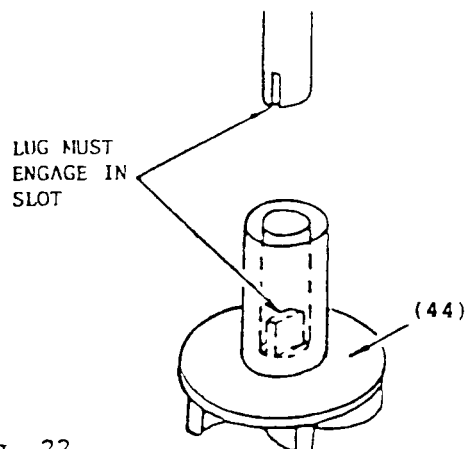

Fig. 22
1. Replace oil pump on lower end of upright arm shaft and turn machine pulley slowly to check that the lug at the bottom of the hole in the impeller (44) is engaged in the slot provided for it on the lower end of upright arm shaft. (Fig. 22)